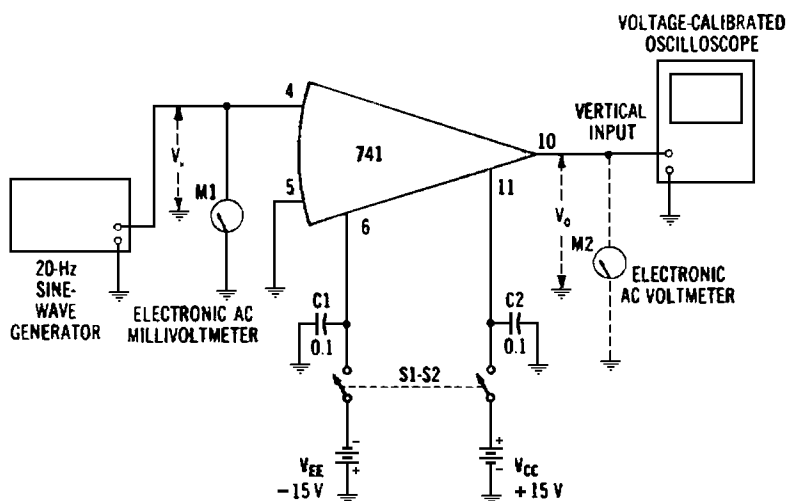

Fig. 2-13. Open-loop ac voltage gain.
### Required Equipment (Fig. 2-13)
1. With switch S1-S2 open, the generator off and its output attenuator set to zero, and the oscilloscope off, set up the test circuit as shown in Fig. 2-13. (In this experiment, the IC runs "wide open" and is "touchy." Keep all leads short and direct.)